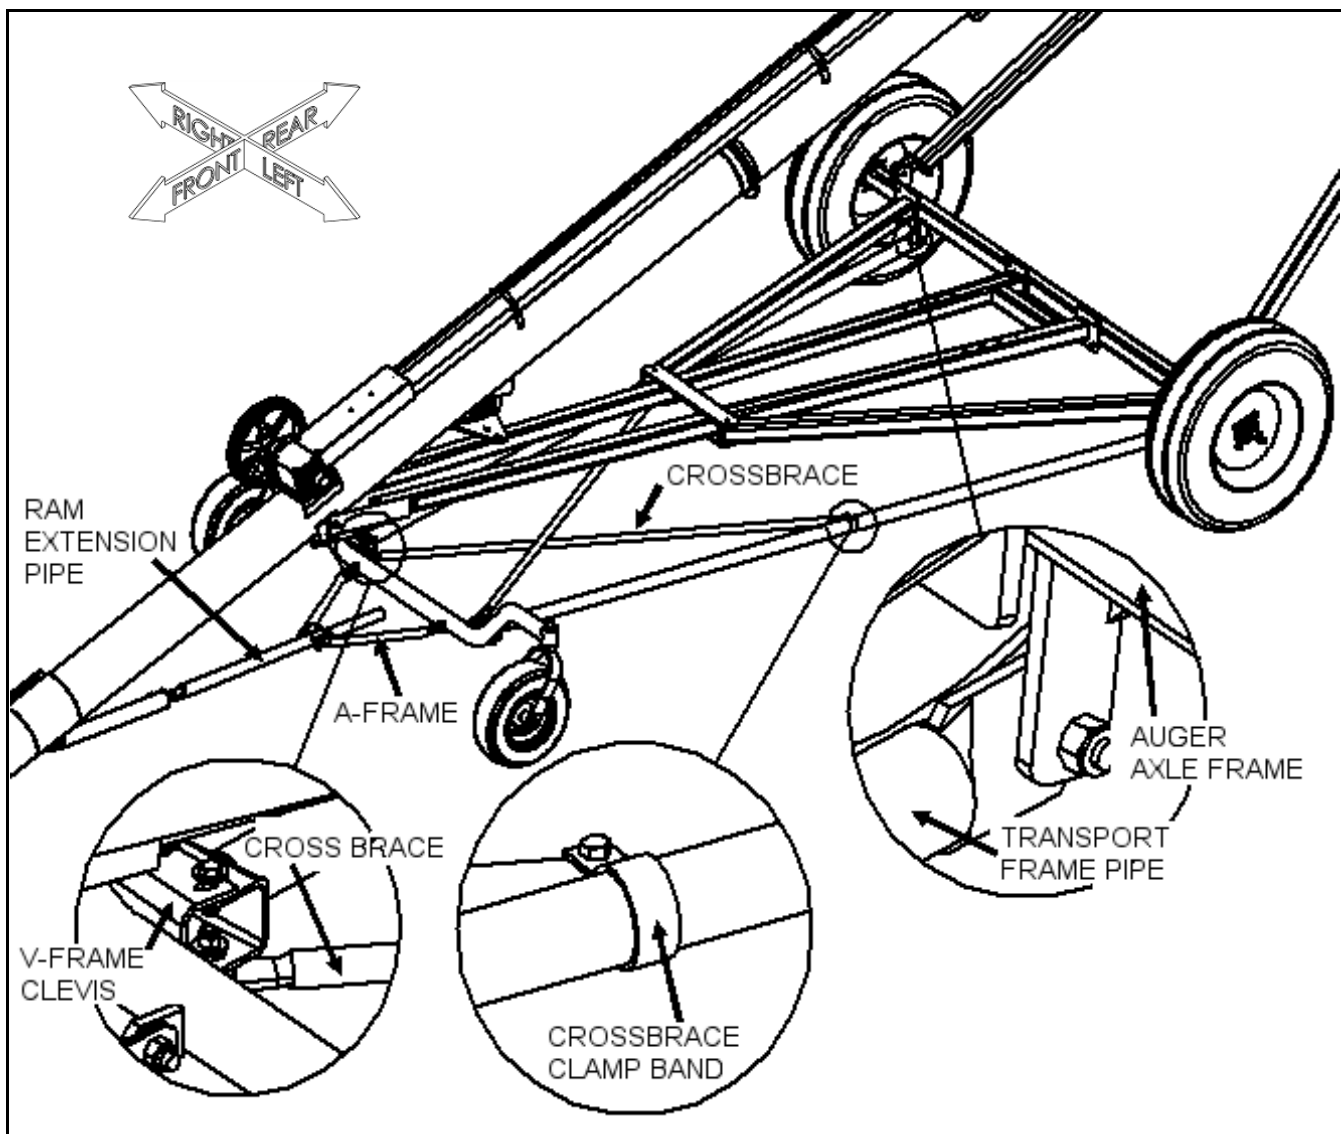

Figure 3.11 Self-Propelled Auger Frame Installation
4. Attach transport frame pipes to axle tabs on the auger axle frame as shown in Figure 3.11 using the bolts and locknuts provided.
13. One end of the crossbrace is attached to the V-frame clevis, the other is attached to the transport tube using clamp bands (Figure 3.11).